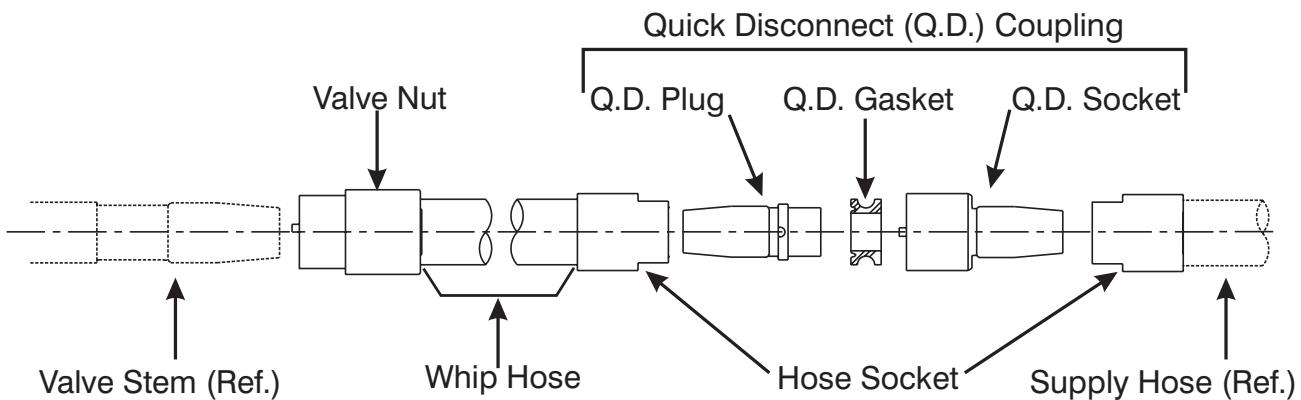

Figure 11-12. Whip Hose Components and Quick Disconnect Fittings.
1. Place the Whip Hose components and Q.D. fittings on the assembly bench. These items are listed below and illustrated in Figure 11-12.